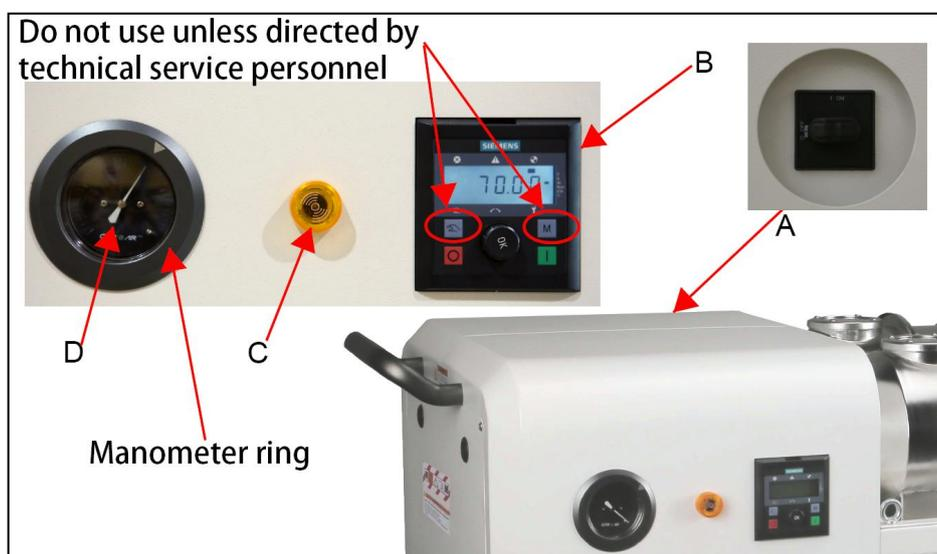

Fig.13
5.1 The operating and instructions of electrical components (Fig.13)
1. Do not use the circled button as Fig.13. If you have operated the circled button, you must power off this machine 10x's, then power this machine again to restore the initial setup.
5.2 The operating of manometer (Fig.13)